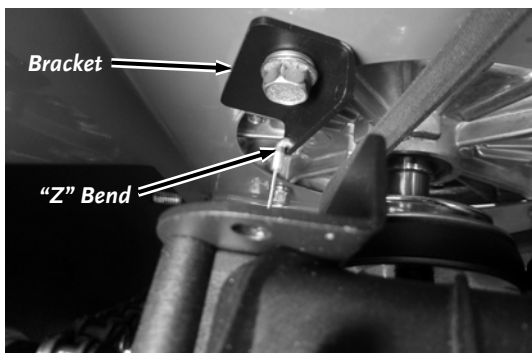

Figure 36
7. Disconnect the Z-bend end of the Drive Cable from the Bracket (**Figure 36**).
19. Reconnect the Z-bend end of the Drive Cable into the Bracket hole (**Figure 36**).